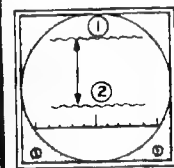

Figure 3
- ( ) Carefully tune the signal generator (around the 350 kc mark) to the point where the CRT trace moves as far above the screen base line as it will go as shown at 1 of Figure 3. Turn the PIP GAIN control counterclockwise if the CRT trace has moved upward and completely off the CRT screen.
- ( ) Using a small screwdriver or prepared alignment tool, adjust the slug of L1 until the CRT trace moves down toward the screen base line. The correct adjustment of L1 is at the point where the CRT trace moves the closest to the screen base line. See 2 of Figure 3.